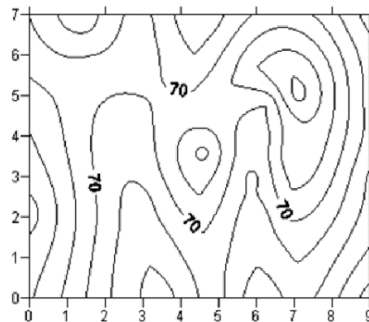

Figure 1.133 – Redrawn contour map with contour levels on 10-foot intervals
5. Click OK in the contour map properties dialog and the map is redrawn with the new contour levels, fig. 1.133.